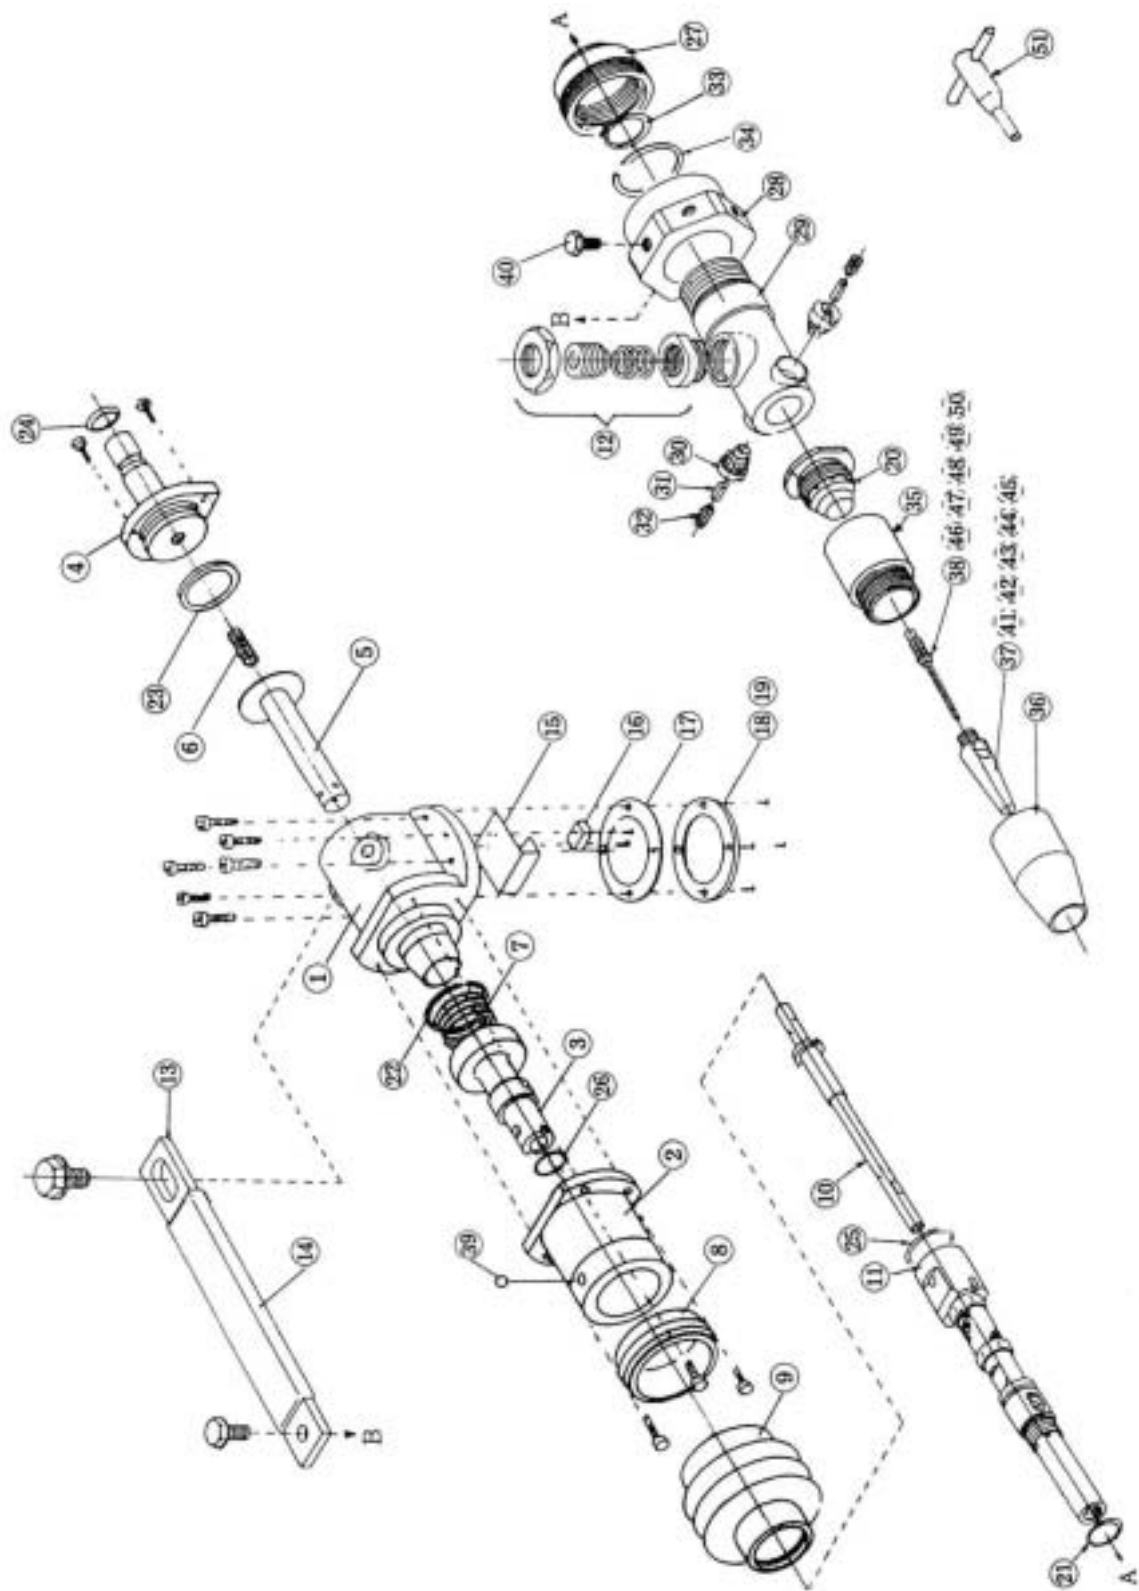

Fig.7 Exploded diagram of forced pressure power feeding torch equipped with shock sensor [MTZ-3502]
- If the components are consumed or damaged while this torch is used, refer to Fig.7 and Table 4, and contact our local distributors or sales agents. When ordering, be sure to inform us of the product name and parts No. (or specification).